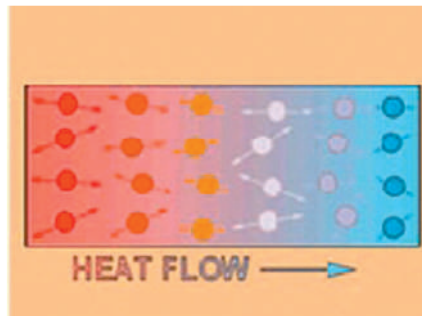

Figure 2.140 Conduction
- Conduction occurs through the cylinder and combustion chamber surfaces as heat passes to the coolant (Fig. 2.140).